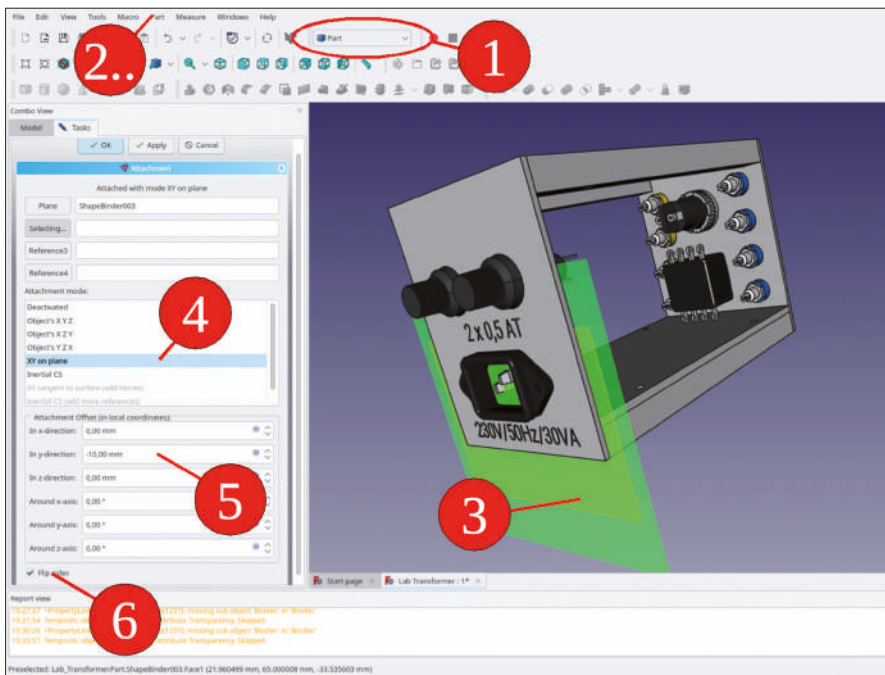

Figure 9-82
13. Mark 'Trafo Rear Panel Complete' and switch to the 'Part' workbench. From the main menu, select 'Part | Attachment...'. Attach the rear panel to the shape binder 'Position Rear Panel', select 'XY on plane' as the attachment mode and enter a value of -10 mm for the attachment offset Y. Then, check the 'Flip sides' checkbox (Figure 9-82).